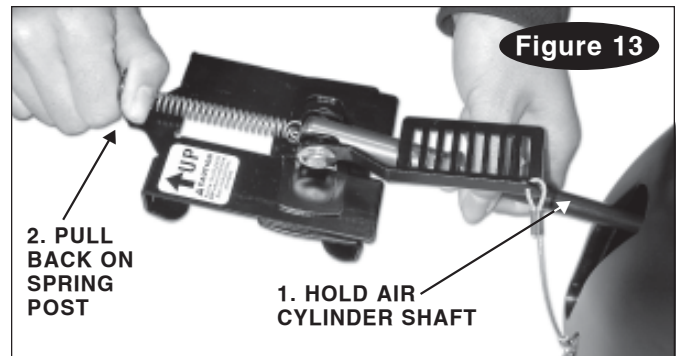

Figure 13
9. Then, hold the air cylinder shaft and pull back on the spring post (Figure 13), until the tabs under the pedal clamp are wide enough to clear the brake pedal.